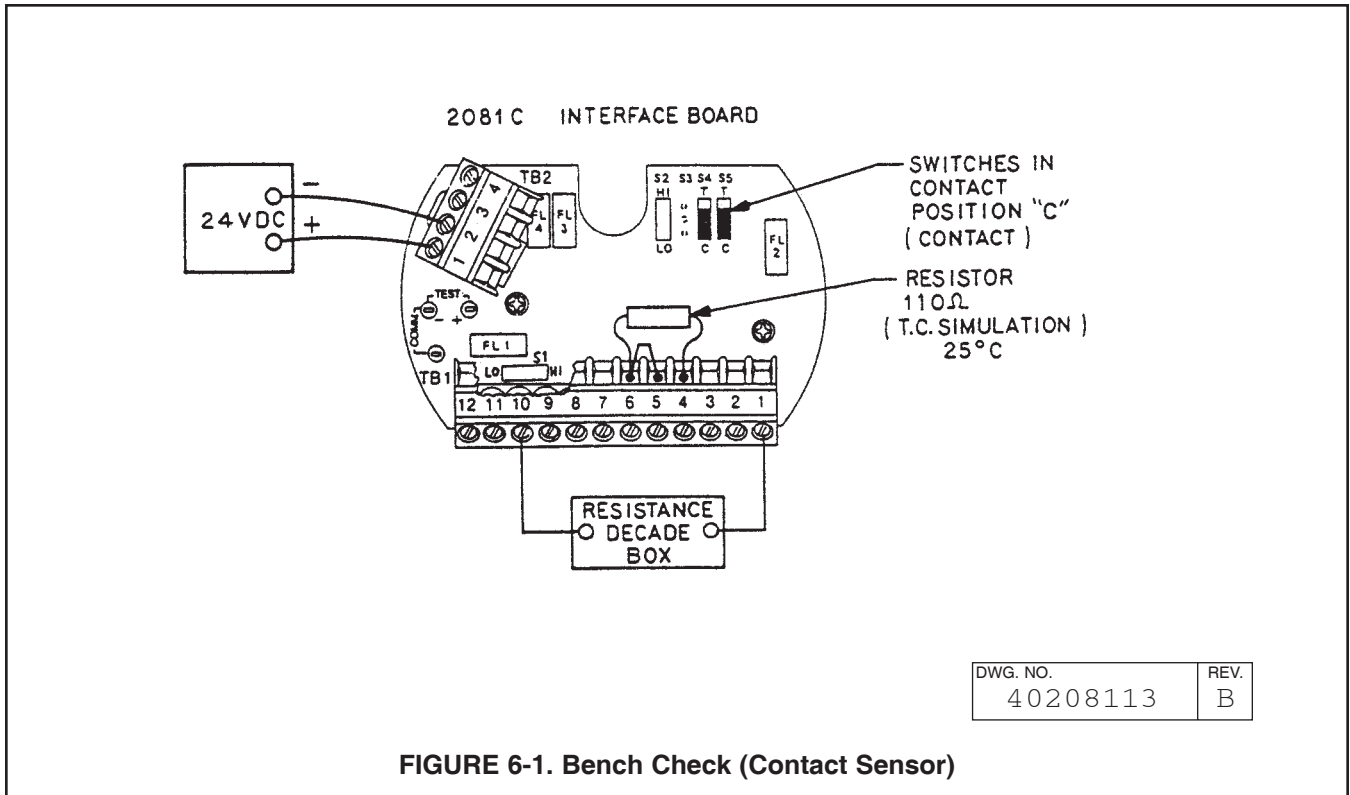

FIGURE 6-1. Bench Check (Contact Sensor)
6.2 CONTACT CONDUCTIVITY MODE BENCH CHECK: Sensor simulation may be used to check the operation of the model 2081C/T. See Figure 6-1 for wiring diagram to perform analyzer check.
1. Set up transmitter as shown in Figure 6-1.